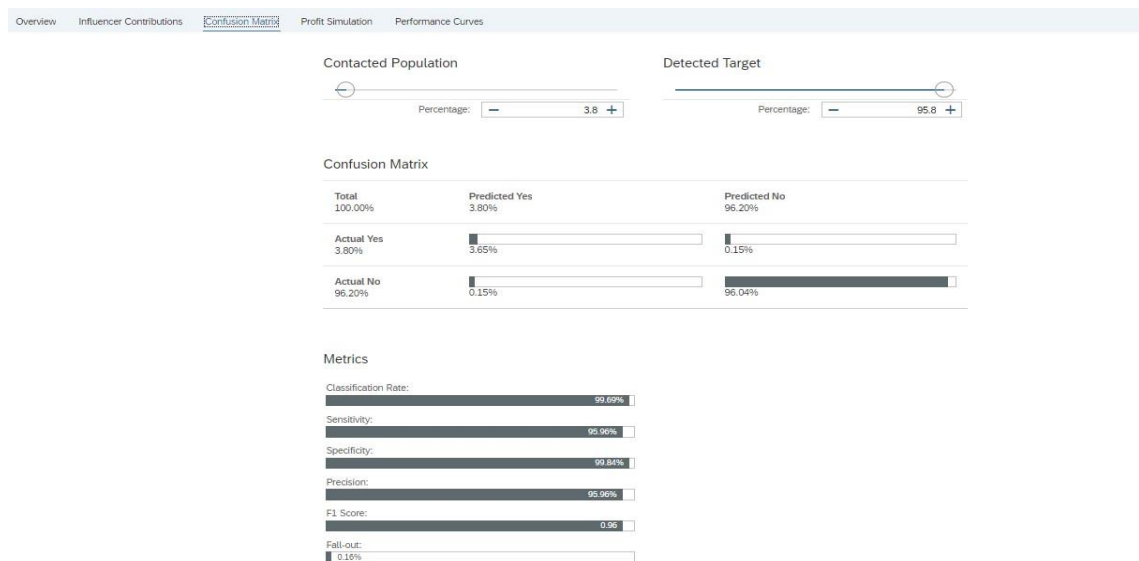

FIGURE 5: CONFUSION MATRIX
- **Artificially Inflated Performance:** The model exhibited exceptionally high accuracy metrics (e.g., 99.69% Classification Rate, 99.96% Sensitivity, 99.99% Precision, and 0.96 F1-score, as seen in Figure 5). These results, while seemingly impressive, are not indicative of the model's true predictive power on unseen data. The model essentially "learned" to copy the Target value from its inputs, rather than learning complex relationships from the other operational features.